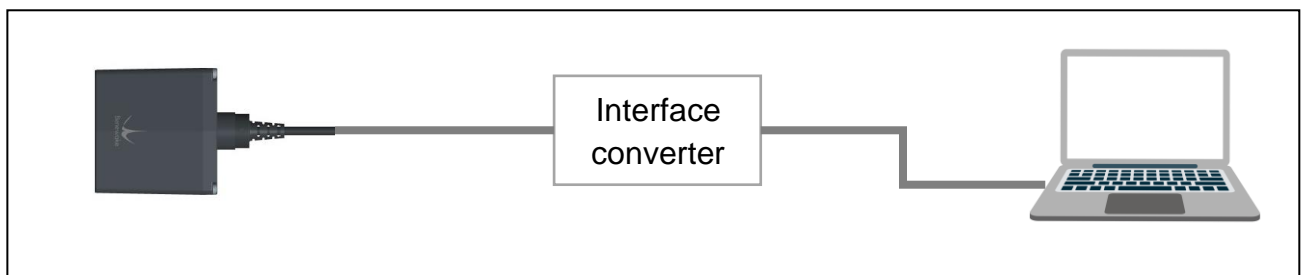

Figure 15 TF03 connecting to PC
- Connect TF03 to the PC or laptop with a **paired USB converter** cable as shown in Figure 15 TF03 connecting to PC. The UART version TF03 needs a UART-USB converter, and the CAN version TF03 needs a CAN-USB converter.